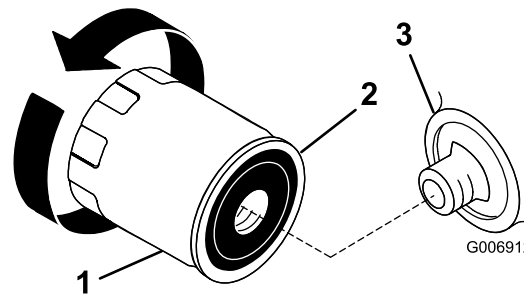

Figure 19
- Remove the old oil filter and wipe the filter adapter (Figure 19) gasket surface.
- Apply a thin coat of new oil to the rubber gasket on the new oil filter (Figure 19).
- Turn the oil filter clockwise until the rubber gasket contacts the filter adapter, then tighten the oil filter an additional 1/2 to 3/4 turn (Figure 19).